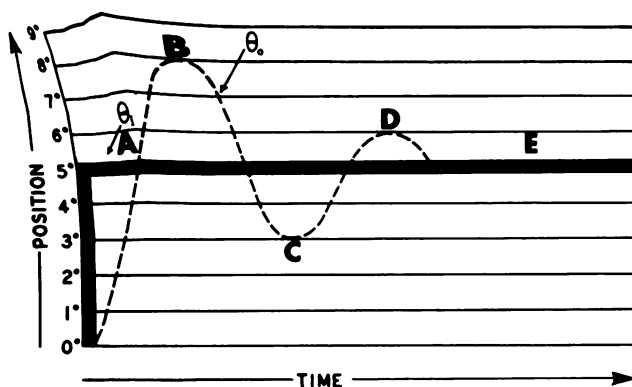

Figure 4A.—Response of a wing-position servo system to a step command from the missile autopilot.
6. At what point in time will the transient error in figure 4A equal  $3^\circ$ ?
7. At what point in time will the transient error in figure 4A be  $0^\circ$ ?
8. What is the value of the steady state error in figure 4A?